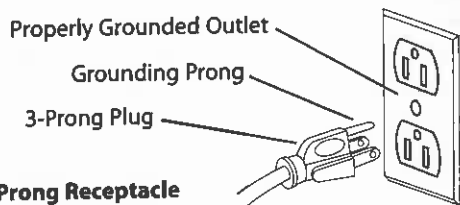

Figure 2 - 3-Prong Receptacle
- This grinder is equipped with an approved 3-conductor cord rated at 300V and a 3-prong, grounding type plug (See Figure 2) for your protection against shock hazards.
- Grounding plug should be plugged directly into a properly installed and grounded 3-prong grounding-type receptacle (See Figure 2).